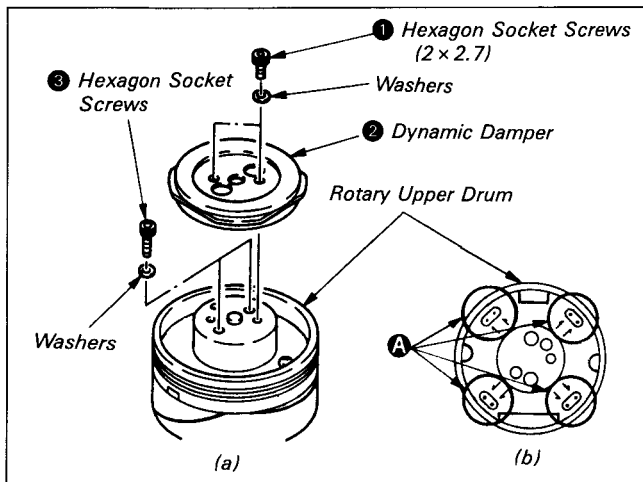
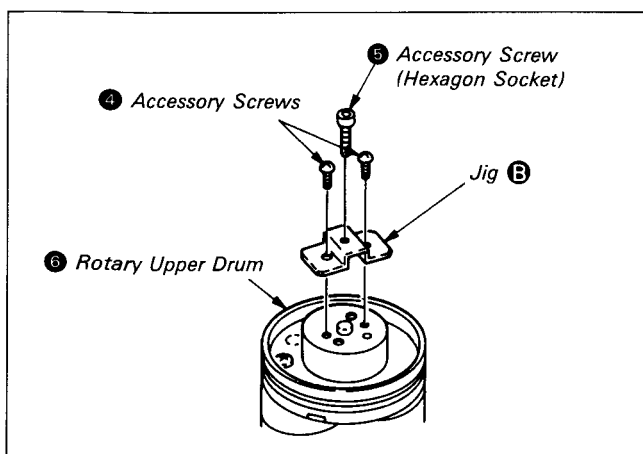

Fig. 7-45.
Fig. 7-46.
- 1) Remove two hexagon socket screws (2 × 2.7) ① and dismount the dynamic damper ②. (See Fig. 7-45.)
- 2) Suction solder at all of the soldered eight positions A. Check that the printed wiring board and pins jutting out from below freely move using tweezers, or other tool. (See Fig. 7-45.)
- 3) Remove the two hexagon socket screws (2 × 5) ③. (See Fig. 7-45.)
- 4) Mount the dismantling Jig B with the accessory screws ④ utilizing the screw holes in which the dynamic damper was mounted.
Drive the hexagon socket screw ⑤ into the jig B and remove the rotary upper drum ⑥. (See Fig. 7-46.)
- 3) Remove Jig C, lightly push the rotary upper drum by hands. If the rotary upper drum does not go in to the bottom, alternately tighten the two hexagon socket screws (2 × 5) ③ by hand and fix them temporarily. (See Fig. 7-45, 7-48.)
- 4) Reinsert the Jig C in the positioning hole D and check that the jig can be inserted smoothly. (When the jig cannot be inserted, loosen the two hexagon socket screws (2 × 5) ③ and slide it inserting a clock screw-driver in the hole.)
- 5) Tighten the two hexagon socket screws (2 × 5) ③.
- 6) Solder the eight positions A. (See Fig. 7-45.)
- 7) Tighten the two hexagon socket screws (2 × 2.7) ① reversing the screw removal procedure and remount the dynamic damper ②. (See Fig. 7-45.)